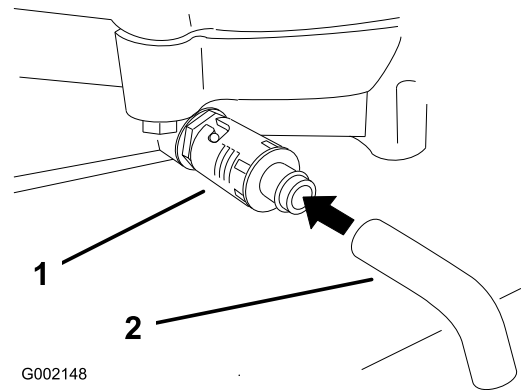

Figure 38
5. Place a pan below the drain. Rotate oil drain valve to allow oil to drain (Figure 38).